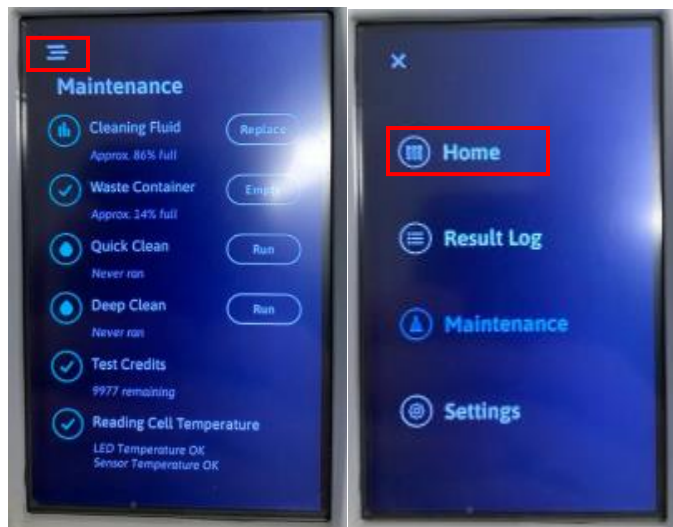

Figure 42
- 10.1. Select the Menu button under Maintenance screen and Home button to return to the Home screen. Figure 42.